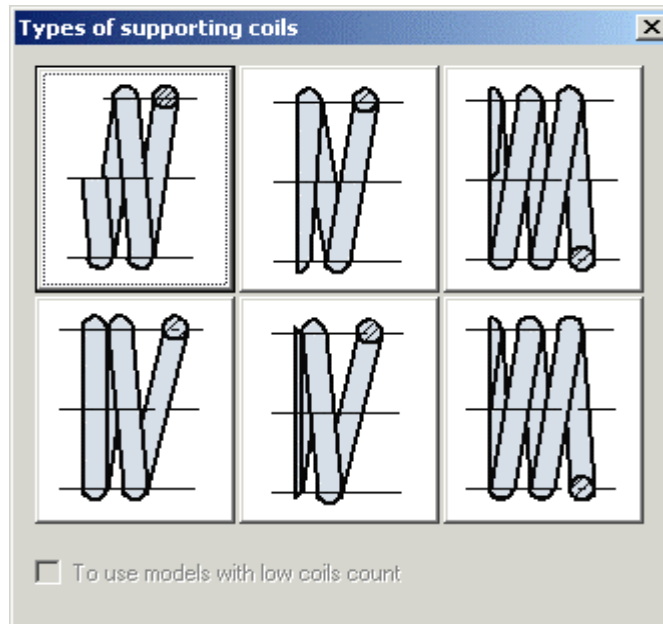

Fig. 5.15 Construction dialog box compression spring.
**Data | Construction...** command invokes the dialog box for input additional data. These data are required for drawing development, but they cannot be calculated automatically. For compression, extension and torsion springs you can choose type of drawing of the spring. Fig. 5.15 shows such dialog box for compression spring.